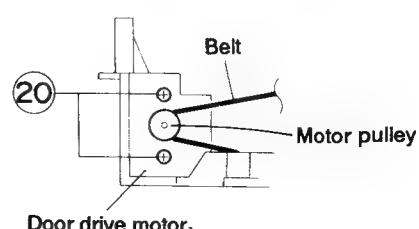

Fig. 5-38
■ Removing the door drive motor (See Fig. 5-38)
1. Remove the one screw ⑯ retaining the door drive motor.